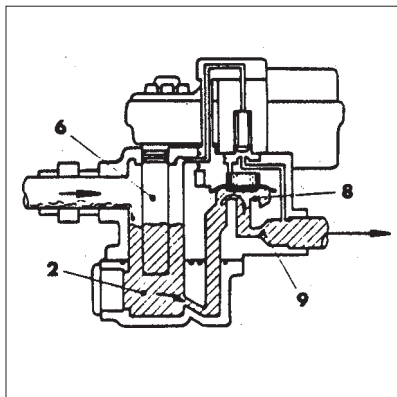

Fig. 2: Condensate discharge
Fig. 2 Once the container (2) has filled with condensate, so that the capacitive level sensor (6) emits a signal, the solenoid valve is reversed and the air above the valve diaphragm is expelled. The valve diaphragm lifts off the valve seat (8) and